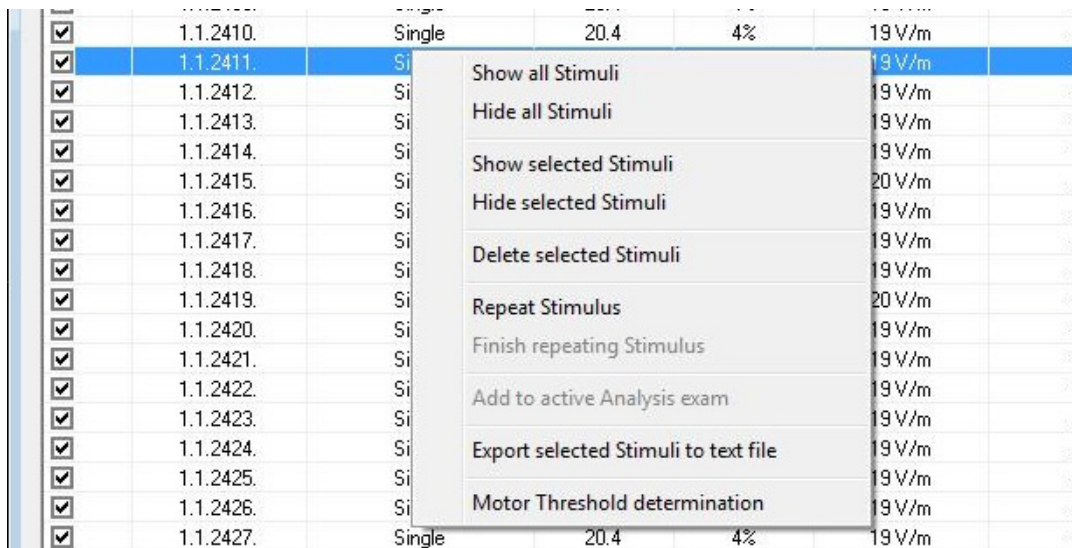

Fig. 96. Selecting Motor Threshold determination in the Analysis Table
b) In the Analysis Table containing stimuli, right-click the starting stimulus and select **Motor Threshold determination** from the pop-up menu (Figure 96).